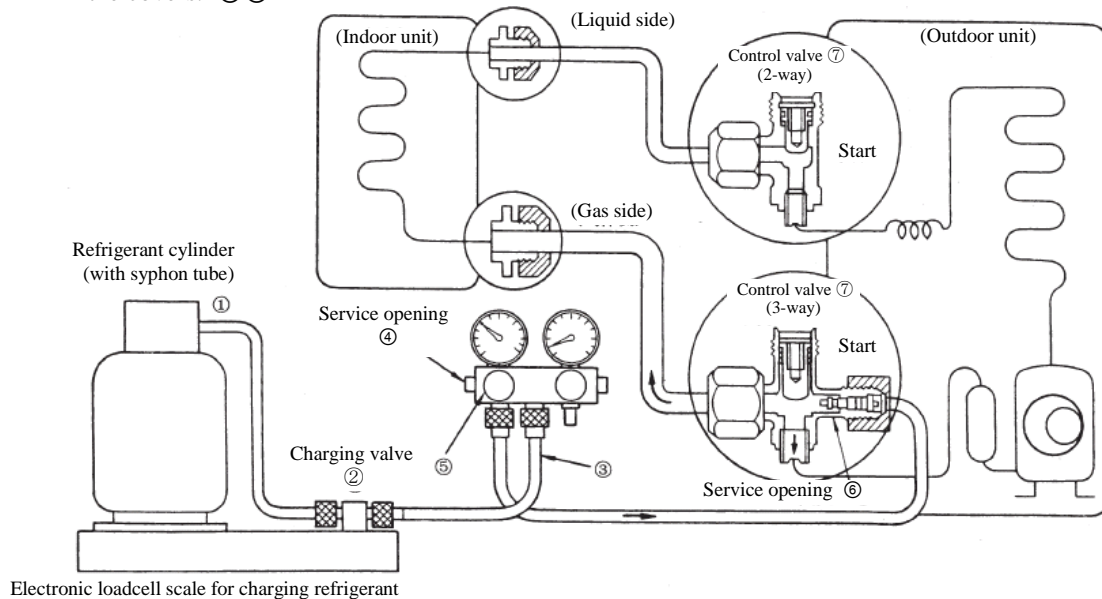

Figure 7 Structure for additional refrigerant charging
- (2) The refrigerant pipe required for additional refrigerant charging should be longer than the standard pipe length. (After step e in (1) above, execute the following steps. See Figure 7.)